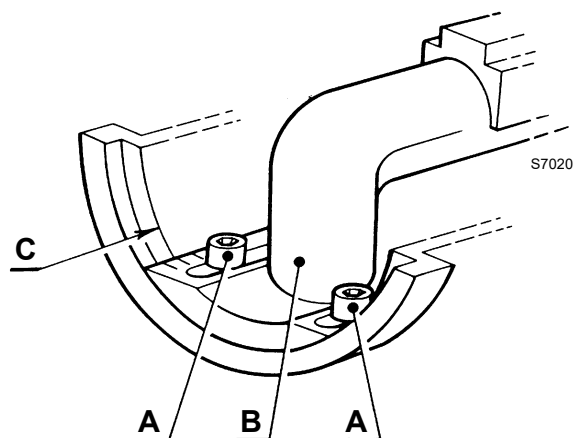

Fig. 10
- loosen the two screws A)(Fig. 10), move the elbow B) so that the rear plate of the coupling C) coincides with the desired notch;
- loosen the two screws A)(Fig. 10) without removing them;